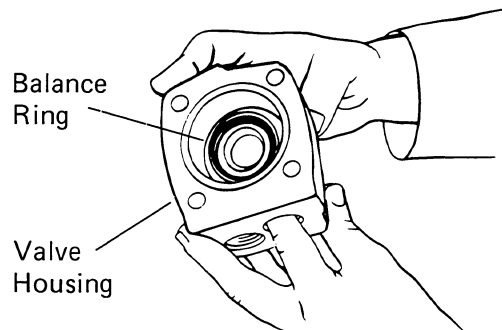

Figure 16
**39** Insert your finger through port of valve housing. Apply pressure to side of balance ring as shown in Fig. 16. Hold ring in position until valve housing is in place against valve plate. See Fig. 17.